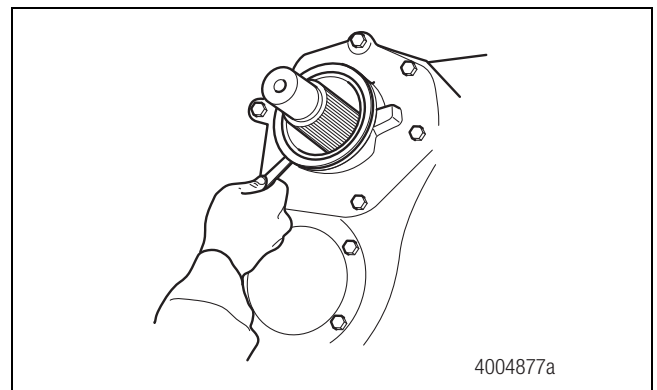

Figure 12
9. Use a feeler gauge to check the seal gap at all three axle positions. The seal is correctly installed if the gap is less than 0.005-inch (0.127 mm) around the circumference of the seal flange. Figure 12.